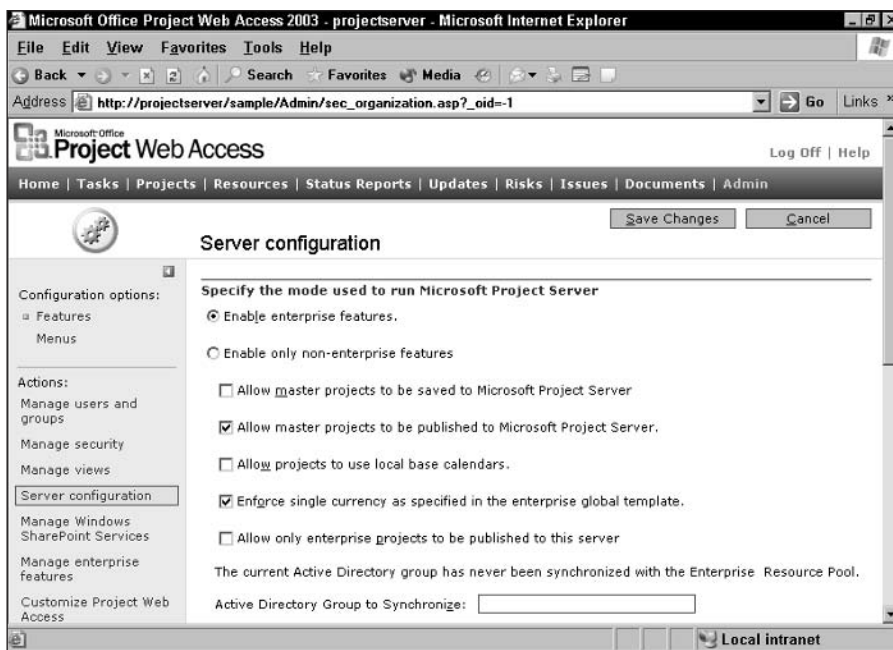

Figure 18-39: Change the mode of operation.
3. Select the Enable enterprise features option button or the Enable only non-enterprise features option button, as appropriate (see Figure 18-39).